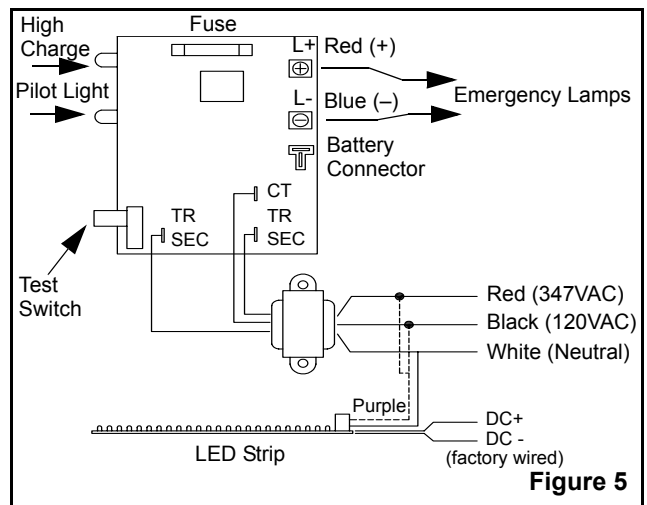

Figure 5
5. Make the proper connections: the unit accepts an input voltage of 120 or 347 VAC (see fig.5). **For 120VAC operations:** connect the purple and black wires to AC line voltage (120VAC) and the white wire to neutral. **For 347VAC operations:** connect the purple and red wires to AC line voltage (347VAC) and the white to neutral. Feed excess wire into the junction box.